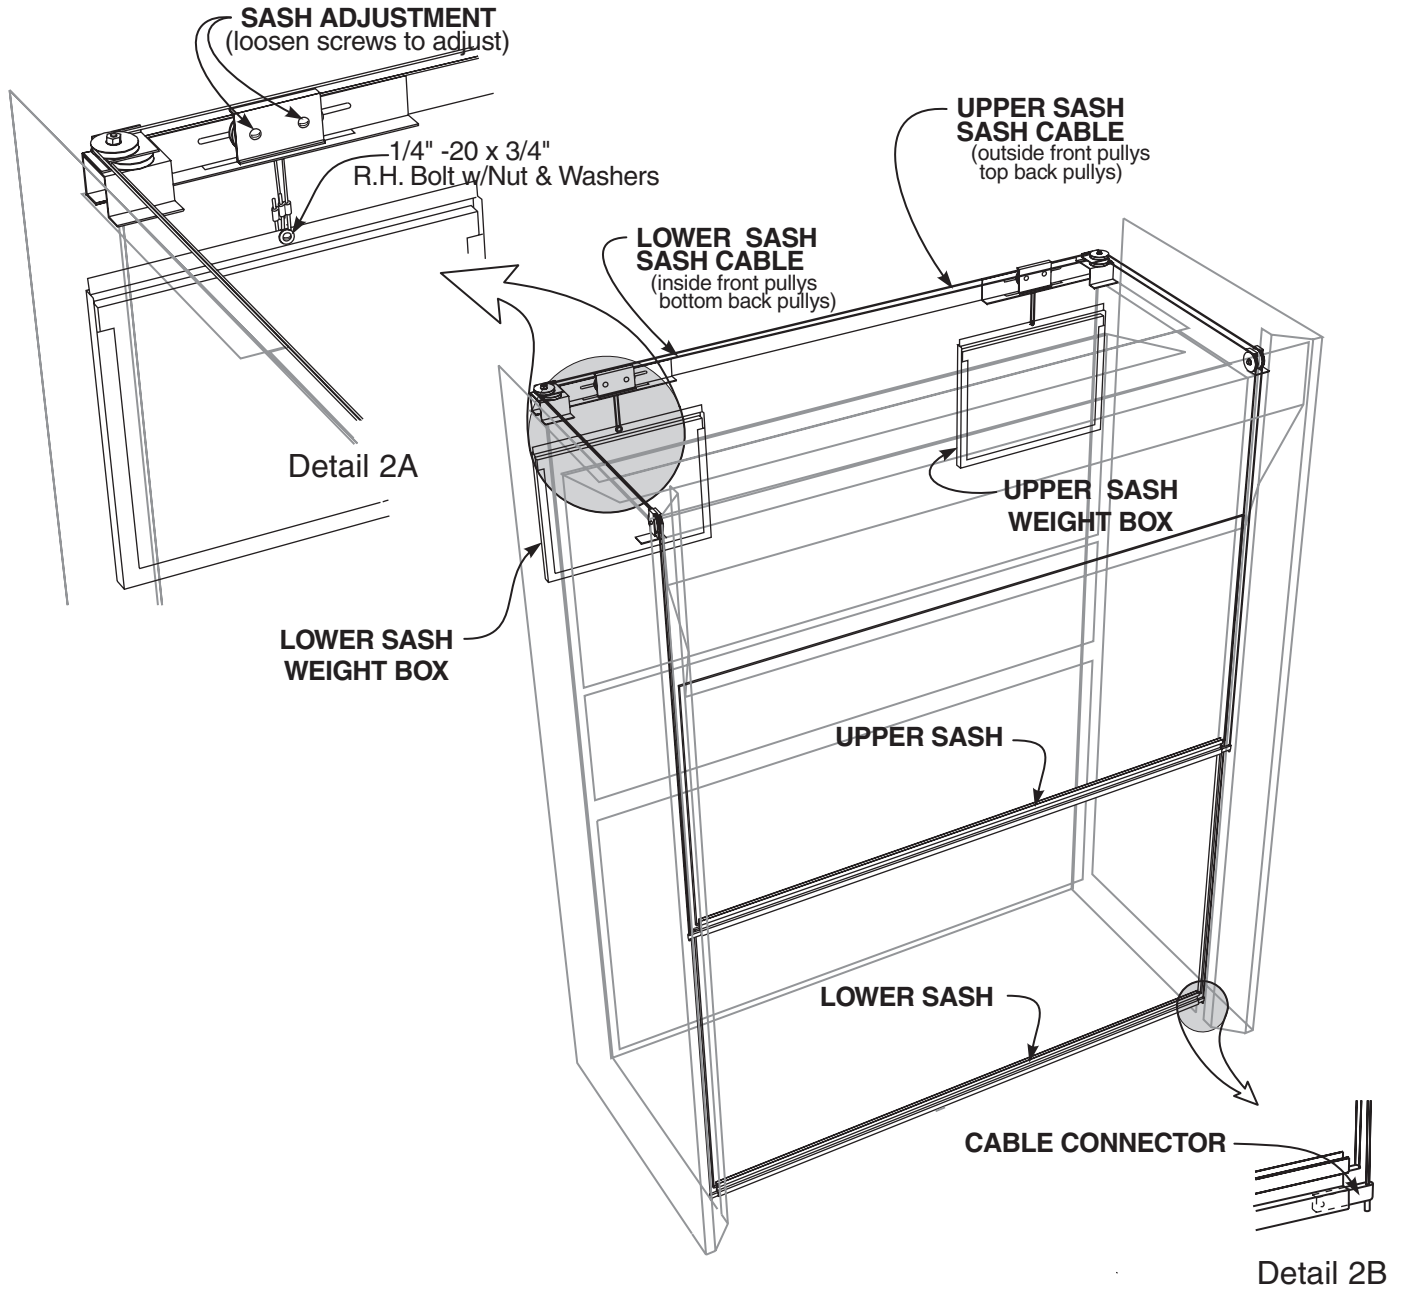

Figure 2
5. Check that **Sash Cables** are properly routed over front pulleys, around rear pulleys, and through the **Sash Adjustment** pulleys. (see Figure 2)
6. Attach **Weight Box** to cables using one (1) 1/4" -20 x 3/4" R.H. Bolt, Nylock Nut, and two (2) Flat Washers for each **Weight Box** (bolt, nut, and washer shipped attached to cable ends)